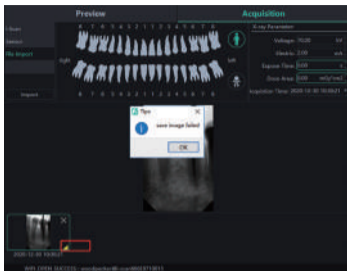
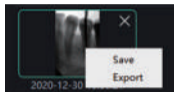

Figure 28
Figure 29
d) During the acquisition, problems such as network instability may be encountered, resulting in the failure of image saving. In this case, there is an image saving failure mark in the lower right corner of the image. Right-click the image and it can be exported to local and saved again, as shown in Figure 28 and Figure 29.